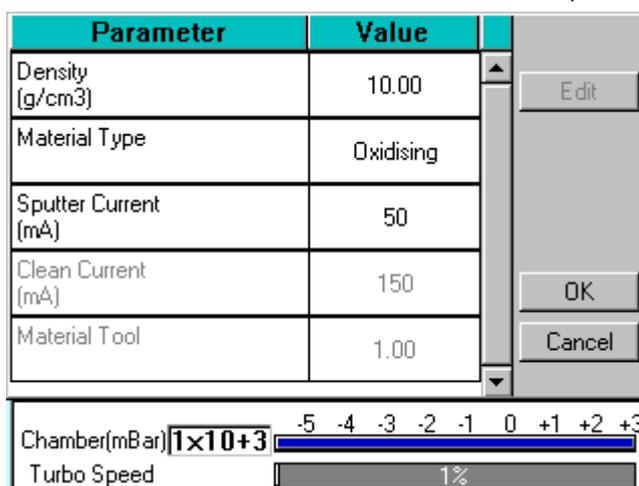

Figure 4-6. Material Parameters
4. Enter a name for the profile: tap in the *Name* field to display the on-screen keyboard (Figure 4-6) in the *Enter Name* dialog box.